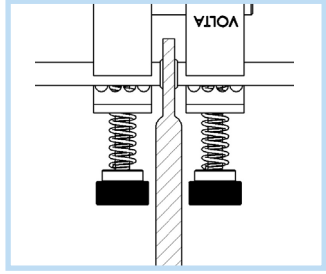

Figure 3
4. Using the two knurled nuts (5), lock
5. Open the R-8 Mini Plier and insert the welder between the two belt ends. Allow the R-8 Mini Plier to close so that the two belt ends are in firm contact with the welder (Figure 3).